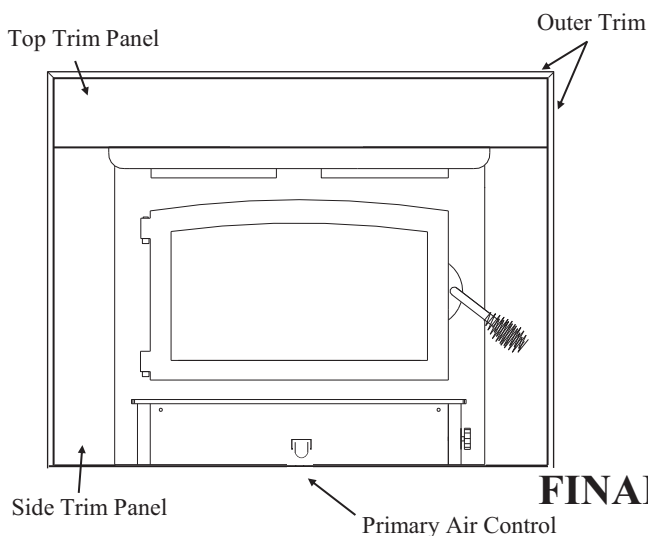

FIGURE 10
9. Obtain brass trim kit provided with insert kit and slip over top and sides of trim panels. Top ends of brass may need to be trimmed to fit (See Figure 10).
Primary Air Control: The primary air intake draft control is located at center of hearth. It is operated by moving handle **IN** to open (to allow air into the firebox) or **OUT** to control or close off air into firebox. (See Figure 10).